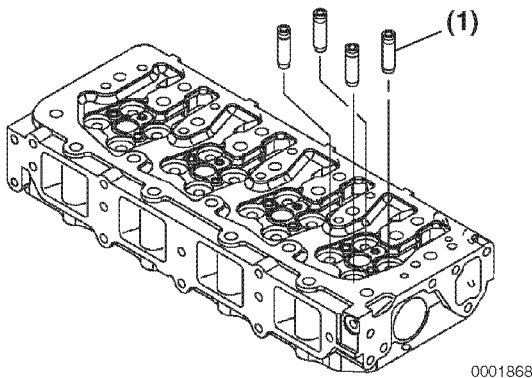

Figure 6-62
2. Immediately after removing the valve guides from the freezer, insert the valve guides (Figure 6-62, (1)) in their proper positions.